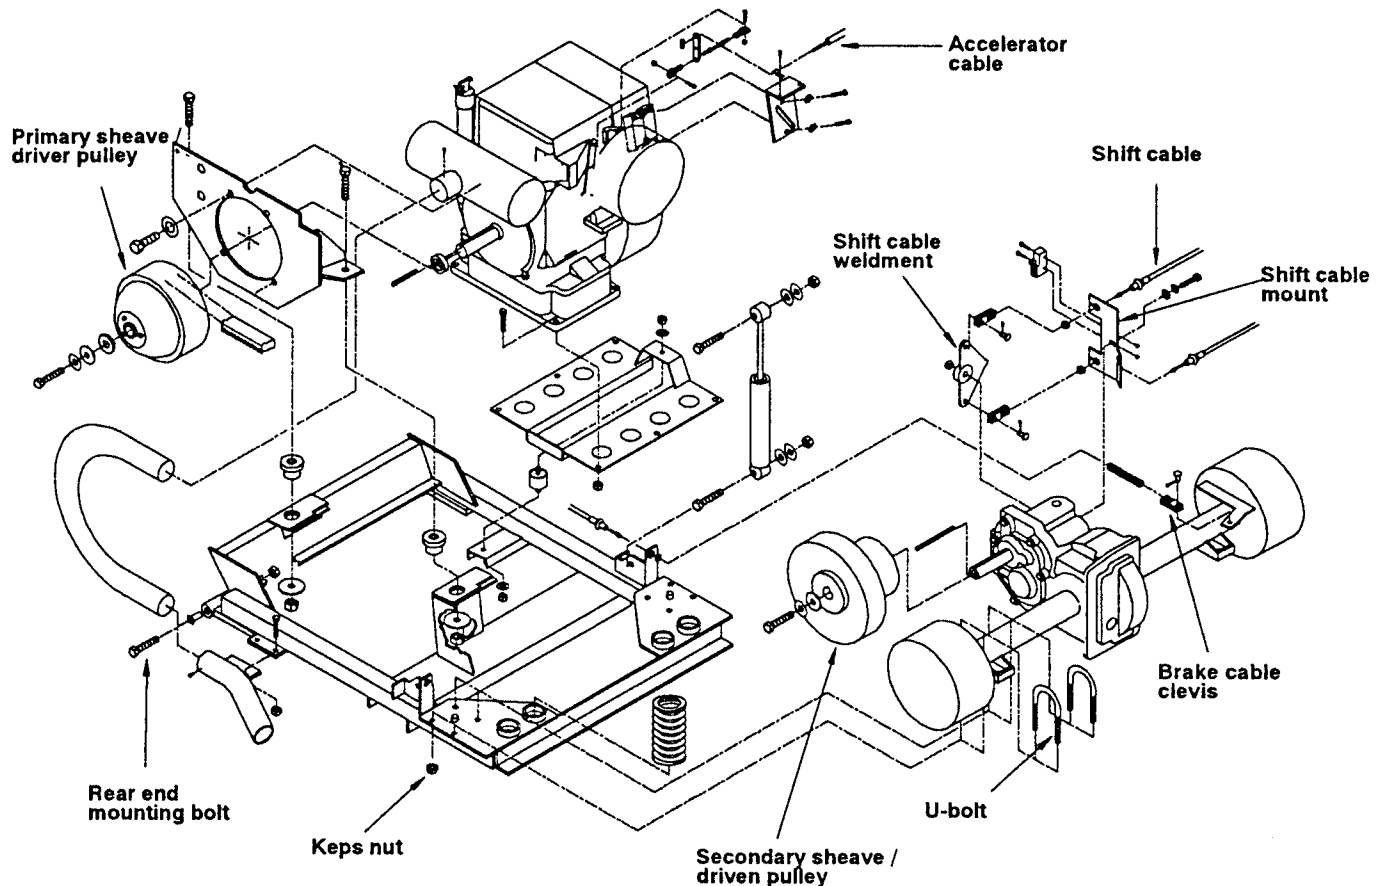

Figure 5 - Mechanical Drive Assembly
- 2** Pull up on the belt, at the same time pulling it outward over the edge of the secondary fixed sheave (see Figure 5).